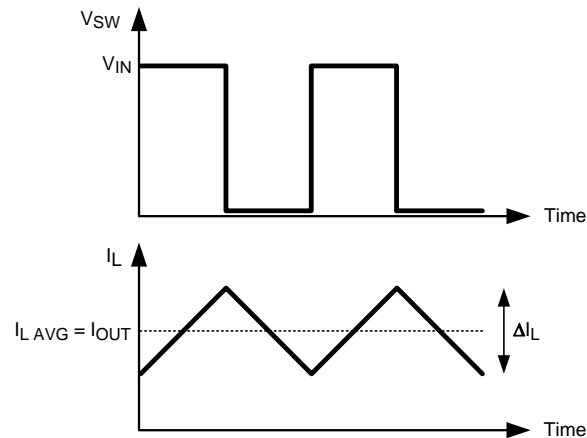

Figure 31. Switch and Inductor Current Waveforms
The inductor (L) used in the application will influence the ripple current and the efficiency of the system. The first selection criteria is to define a ripple current, ΔI_L . In a buck converter, it is typically selected to run between 20% to 30% of the maximum output current. Figure 31 shows the ripple current in a standard buck converter operating in continuous conduction mode. Larger ripple current will result in a smaller inductance value, which will lead to a lower series resistance in the inductor, and improved efficiency. However, larger ripple current will also cause the device to operate in discontinuous conduction mode at a higher average output current.